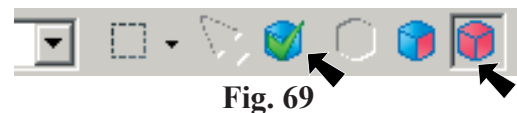

Fig. 69
Step 6. Click **Activate solid selection** button  in the Solids selection ribbon bar and click **Select body**  and unselect others, Fig. 69.